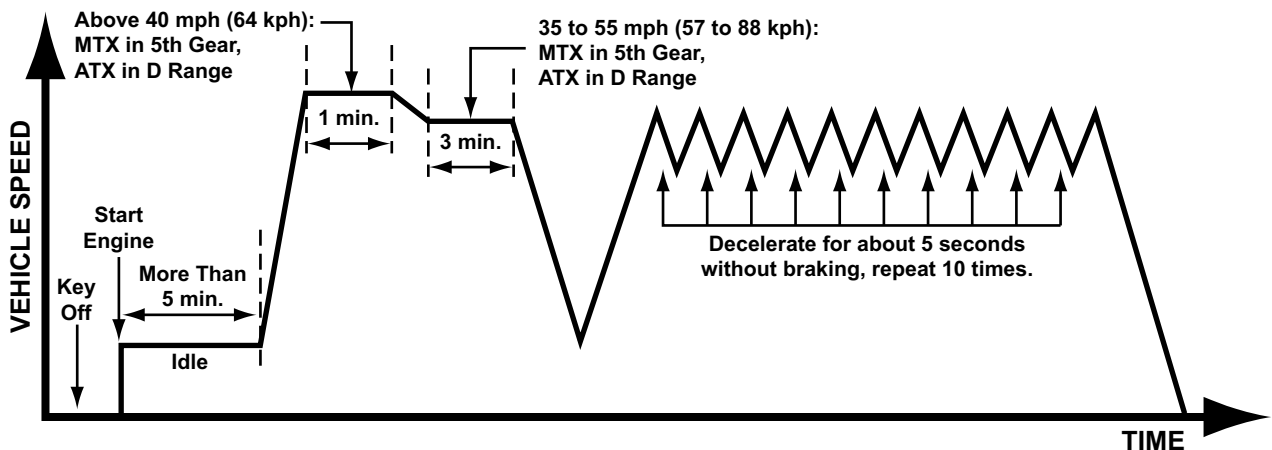

Figure MA000-40
3. Drive the vehicle as shown in Figure MA000-40.